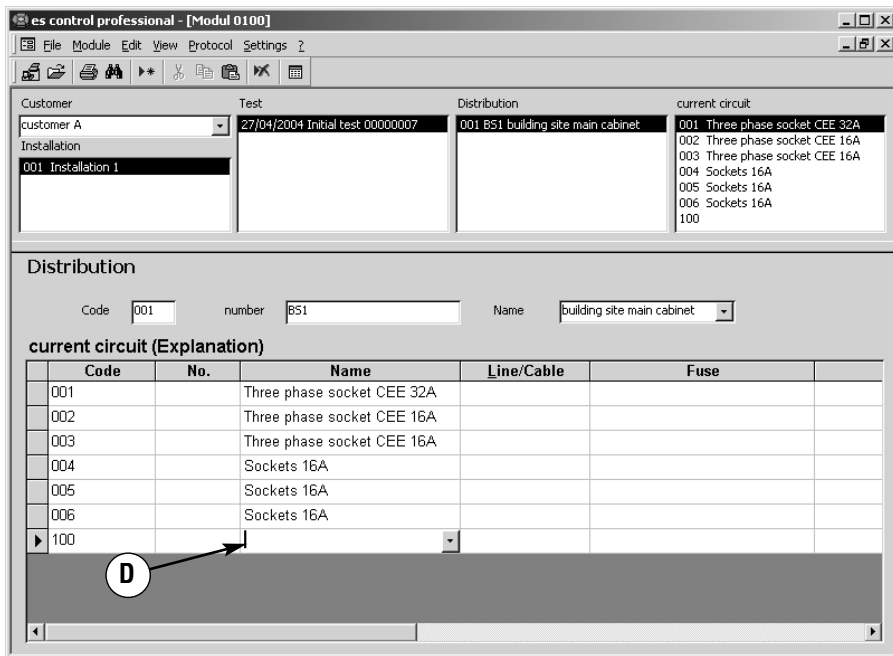

Figure 6.20: “Distribution” window with current circuit designations
- ▶ Then, enter “Sockets 16 A” as name for the marked current circuits. The selected designation is accepted as name for the marked current circuits 004, 005, and 006, please refer to Figure 6.20.